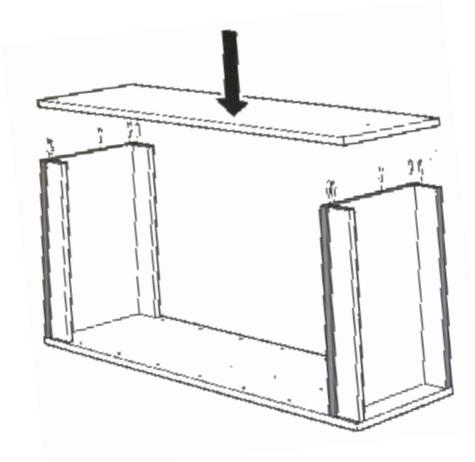

Figure 3 – Attaching the second, long board
4. Use the remaining ten (10) wooden pegs to attach the other long board to the tops of the short boards and stabilizer boards (Figure 3). Make sure that the pre-drilled holes on the second, long board are facing the first long board.